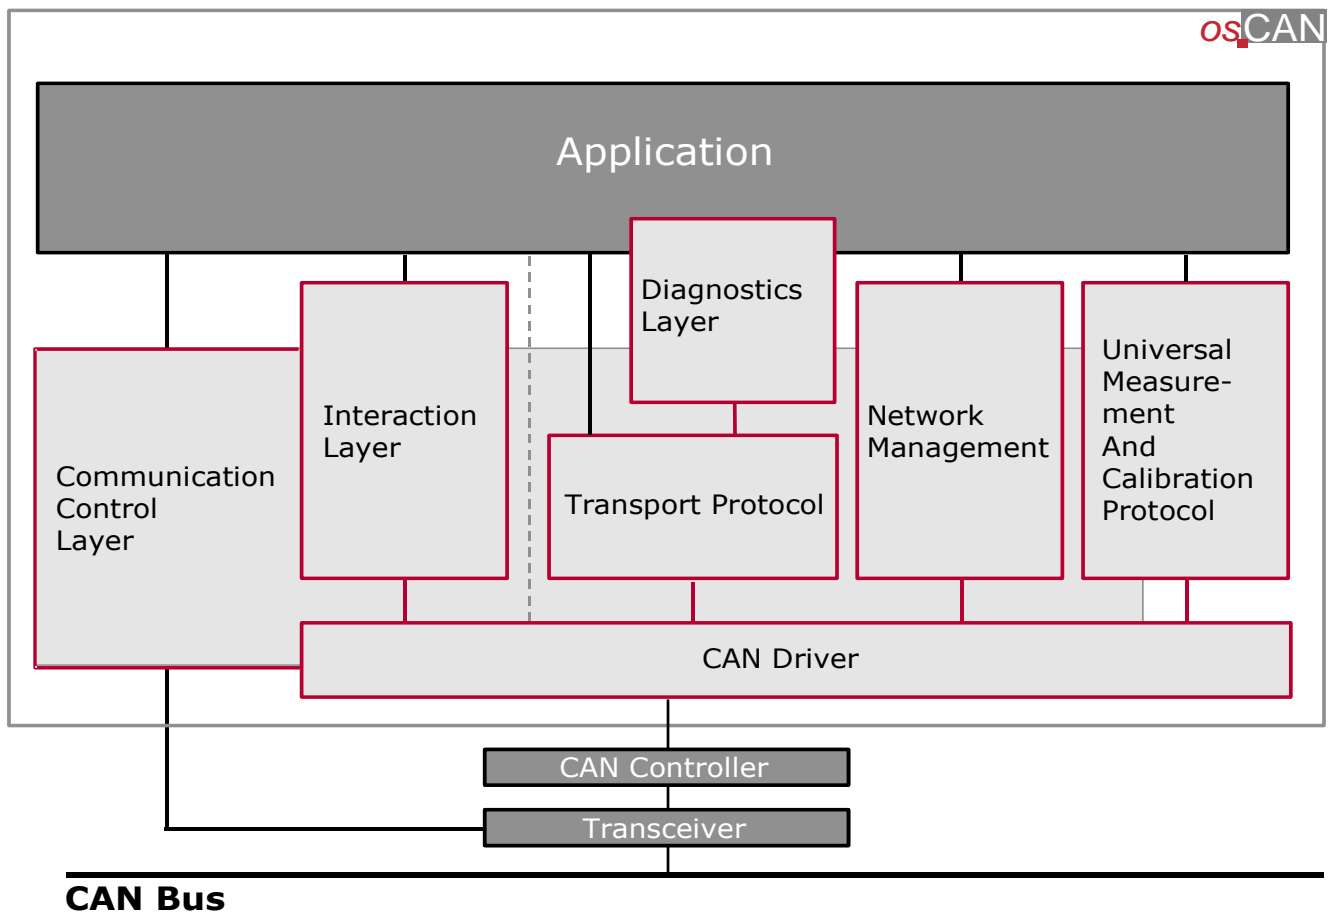

Figure 3-2 Layer model of Vector's CAN communication modules CANbedded
The implementation of the Network Management (NM) is intended to relieve the application of communication tasks. The NM is one of the communications modules of CANbedded offered by Vector Informatik GmbH. It is adapted to the specific requirements of General Motors. The CANbedded communication modules are organized in layers as shown in Figure 3-2. They consist of the Interaction Layer, the Network Management, the Transport Protocol, the Diagnosis Layer, the CAN Calibration Protocol and the CAN Driver (Data Link Layer).